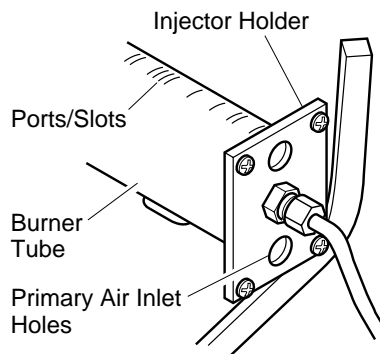

Figure 30 - Injector Holder On Outlet Burner Tube
2. Inspect burner, pilot, and primary air inlet holes on injector holder for dust and dirt (see Figure 30).